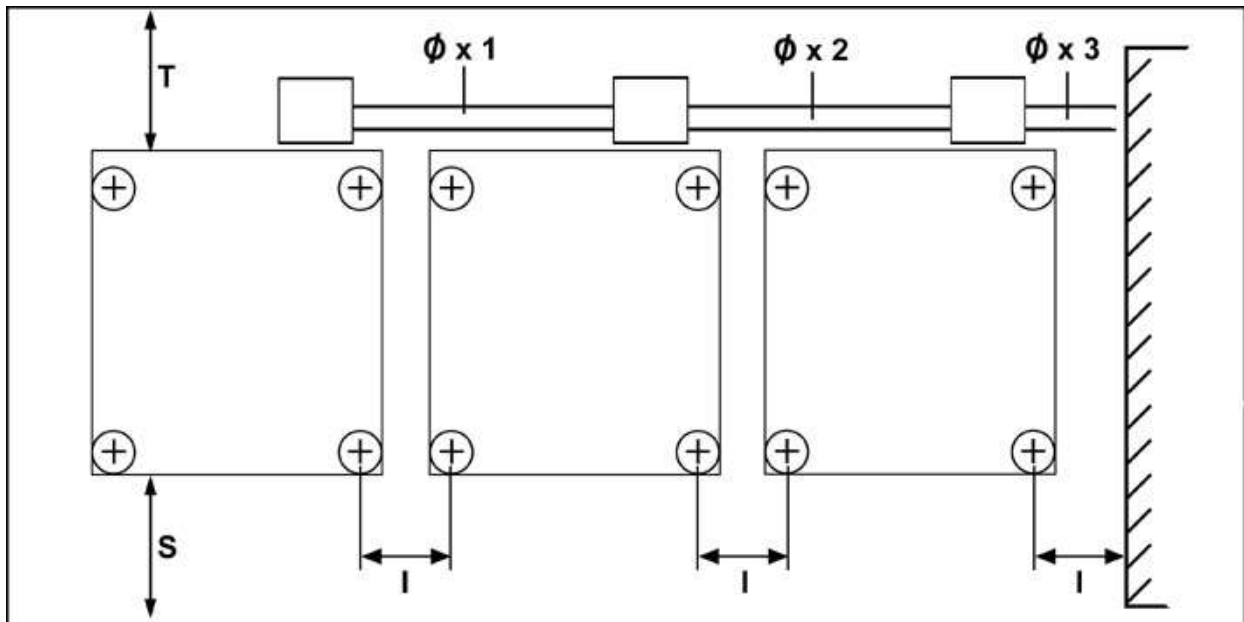

Fig. 2.7
For installations with more than one washer, refer to additional dimensions in section 2.6.3. & figure 2.7.
The minimum distance between adjacent machines and the user and maintenance areas (values **I**, **S** and **T** of Figure 2.7) are specified on the table below.
**Positioning conditions** (Fig. 2.7)
Diameter of **B** manifold: refer to table on section 2.6.3 and Figure 2.7.